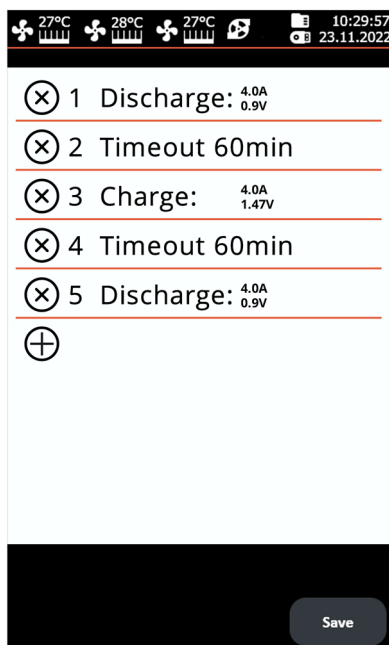

Figure 14. Configured cyclic mode tester menu
If required, items 2 - 6 of the tester can be performed independently, for this configures the mode «TEST CYCLE Ni-Mh». An example of configured mode shows in Figure 14.